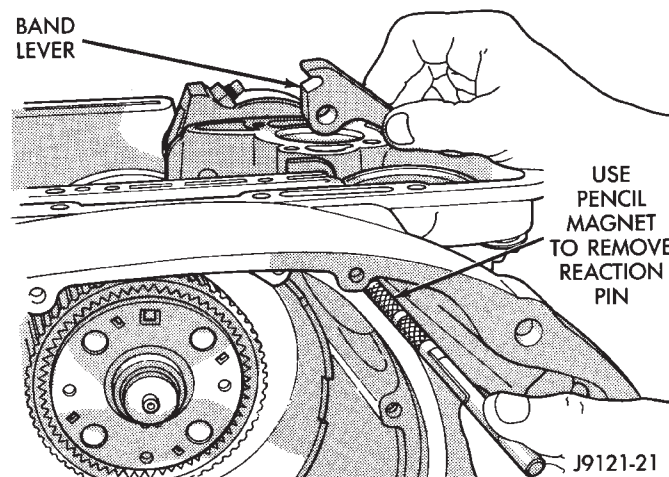

Fig. 109 Front Band Lever And Pin
(20) Remove front band reaction pin and lever. Start pin through lever and out of case bore with drift or punch. Then use pencil magnet to withdraw pin completely (Fig. 109).